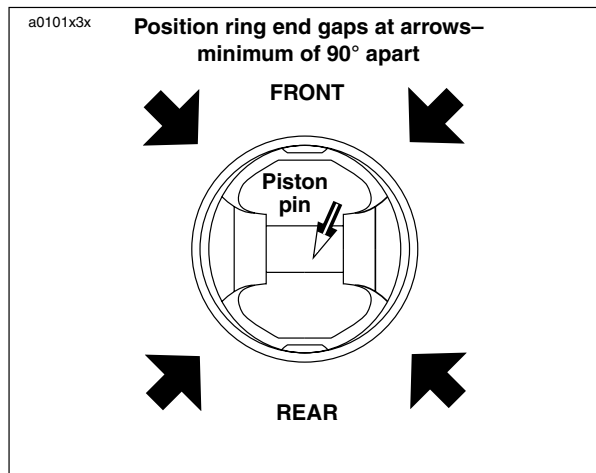

Figure 3-103. Ring End Gap Position
5. See Figure 3-103. Make sure the piston ring end gaps are properly positioned as shown.